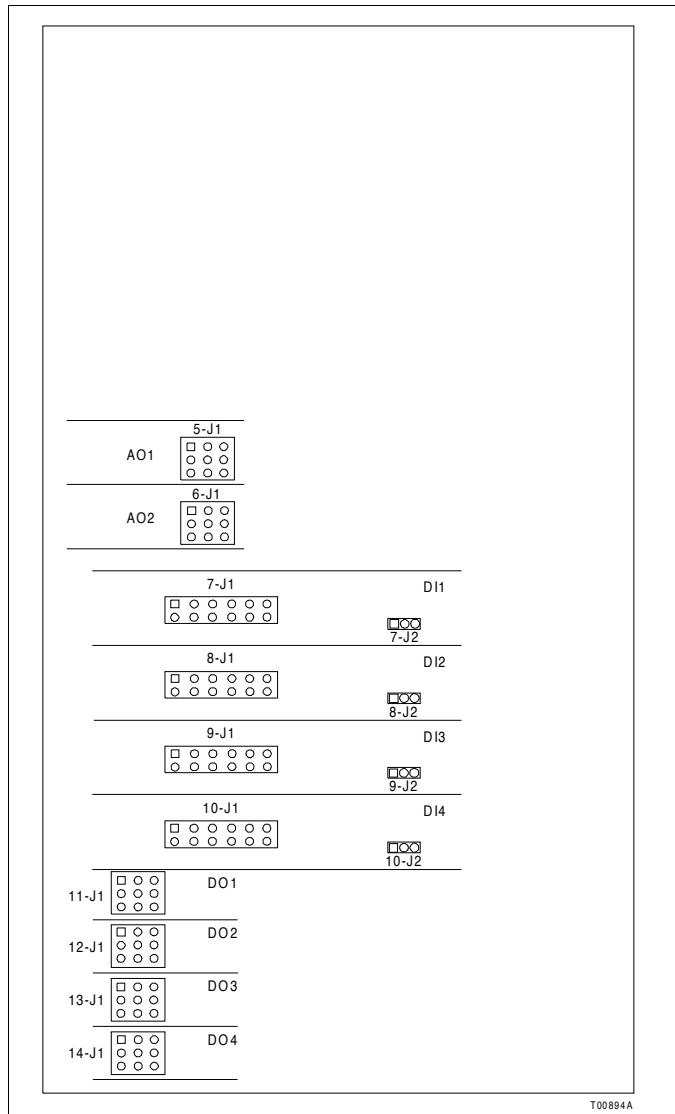

Figure PR11-4. User-Configurable Jumpers - I/O Board
- ☐ 7. Set the analog output channel jumpers as appropriate (Table PR11-4). Refer to Figure PR11-4 for jumper locations.